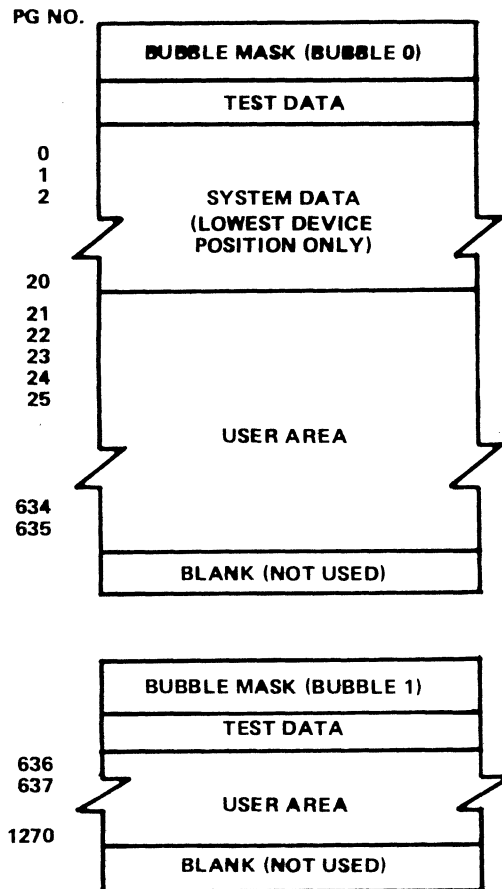

Figure 4-2. Bubble Memory Organization
4.3.1 ORGANIZATION. Each bubble memory device is organized in a system of pages as shown in figure 4-2. Each page contains 18 characters (bytes) and each device physically contains 641 pages. The first four pages and the last page of each memory device are not available to the user. The first three pages contain the mask for redundancy correction by system firmware. The next page contains test data and the last page is not used. The memory module installed in the lowest numbered position on the main processor board is referred to as the system bubble. Pages 0 through 20 are reserved for system